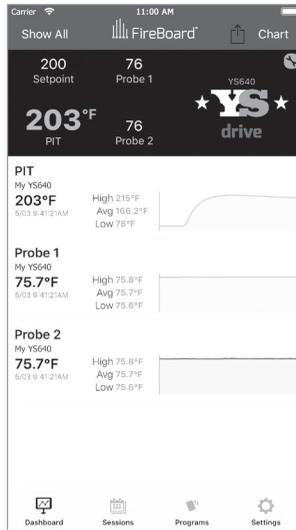

FIG 20
- You can choose between two visualizations of the running temperature data: a basic chart, and a detailed chart. You can toggle between the two by tapping on the word “Chart” or “Detail,” respectively, in the title bar area of the app (FIG 20, 21).